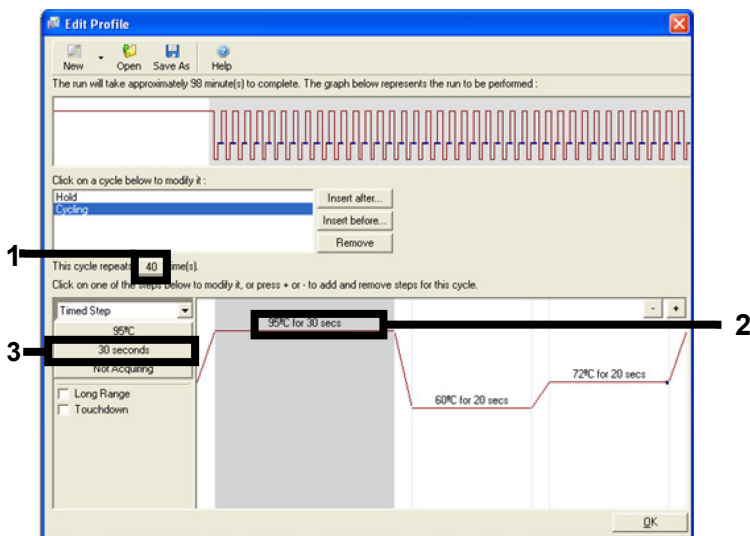

Figure 25. Cycling step at 95°C (1 = “Cycle repeats” box; 2 = Step one: temperature setting; 3 = Step one: time setting).
8. Change the number of cycle repeats to 40. Select the first step and set to 95°C for 30 secs (Figure 25).